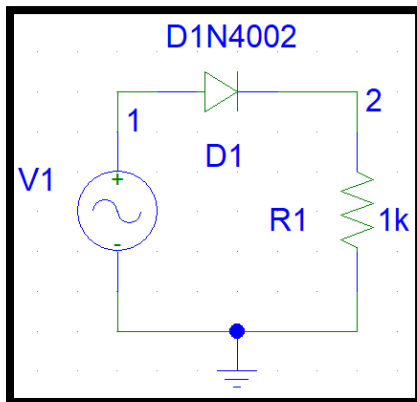

Figure 1: Half-wave rectifier
- Build a half wave rectifier circuit (shown in Figure 1), using a diode and a $1k\Omega$ resistor.